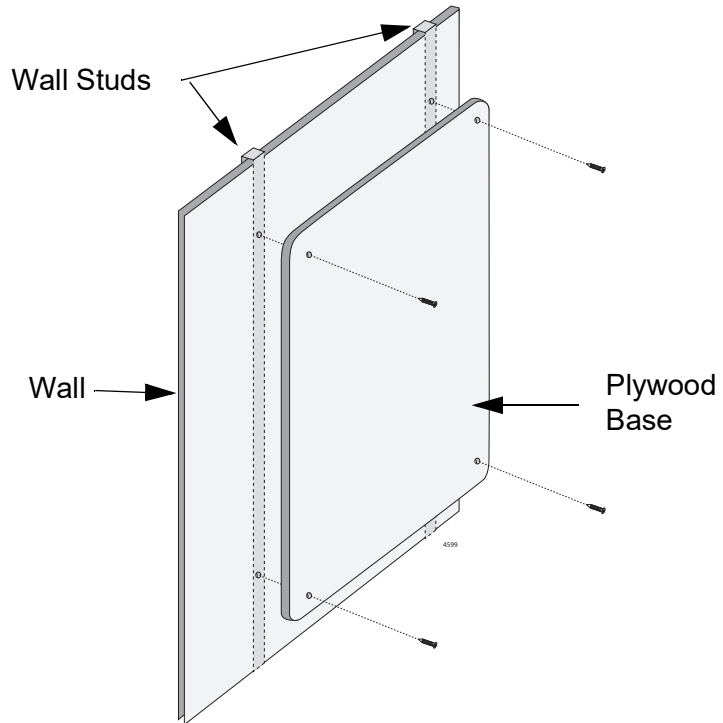

Figure 21. Installing the Plywood Base to the Wall
1. Install the plywood base on the wall and then install the switch on the base. Refer to Figure 21.